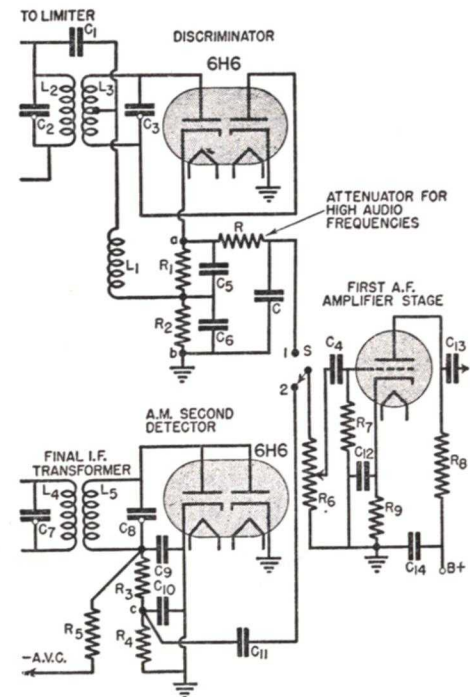

FIG. 43. The discriminator and second detector of a combination a.m.-f.m. receiver.
► Should the receiver be a combination F.M.-A.M. receiver, each section would be aligned separately in the standard manner. A typical output for such a receiver is shown in Fig. 43. Connect across R_4 for aligning the amplitude modulation section and across the R_1 - R_2 combination for the F.M. discriminator alignment.